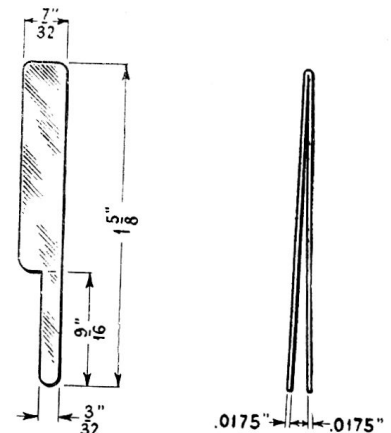

Figure 6—Magnetic pick-up armature spacing tool
- Procure magnetic pick-up armature spacing tool. This is listed in the spare parts catalog, or it may be easily constructed by referring to Figure 6.